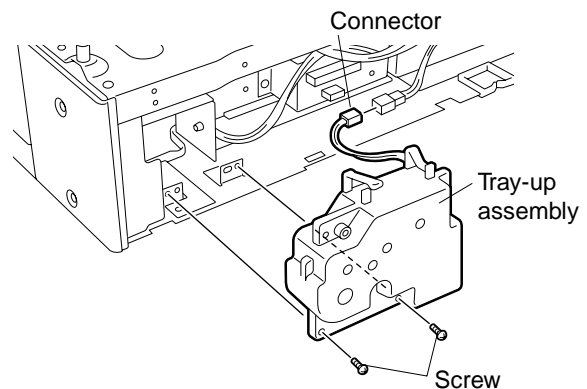

Fig. 6-16
3. Remove tray-up assembly. (See Fig. 6-16)